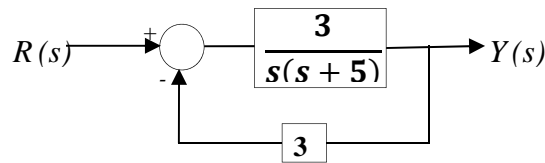

Figure 3[a]
3. [a] A position control system of a dispensing nozzle unit in a three-dimensional (3D) printing machine is shown in Figure 3[a]. Calculate the settling time T_s (based on 5% criterion), rise time T_{r1} (10% to 90% of final value), peak time T_p , percentage of overshoot PO and steady state error e_{ss} of the closed-loop system response to a unit step input. For a second order system ($s^2 + 2\zeta\omega_n s + \omega_n^2$),